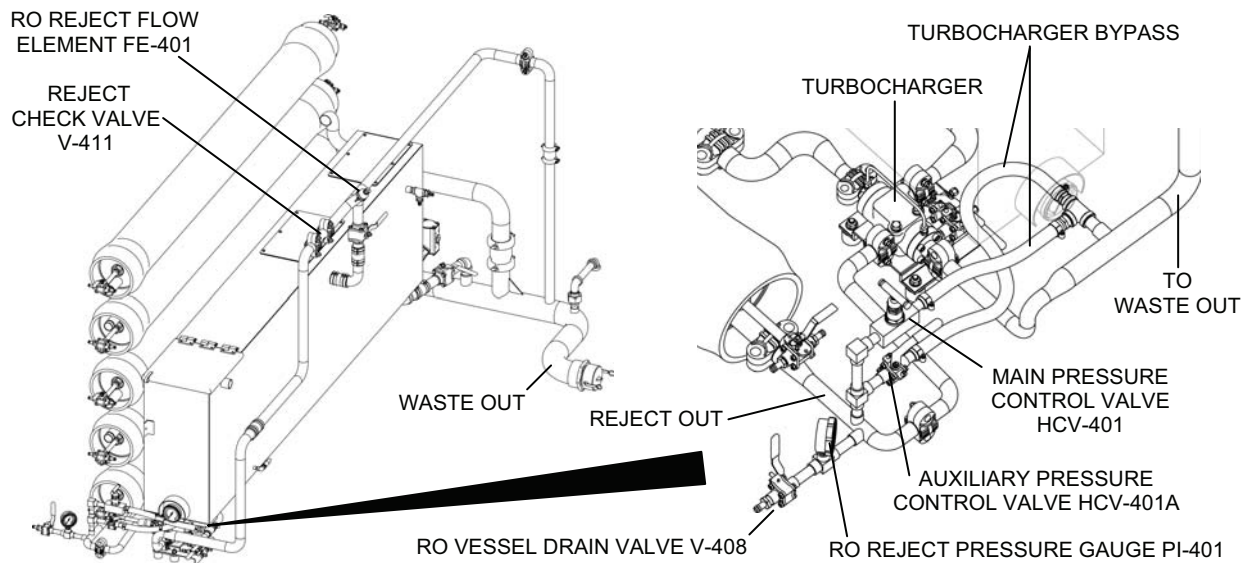
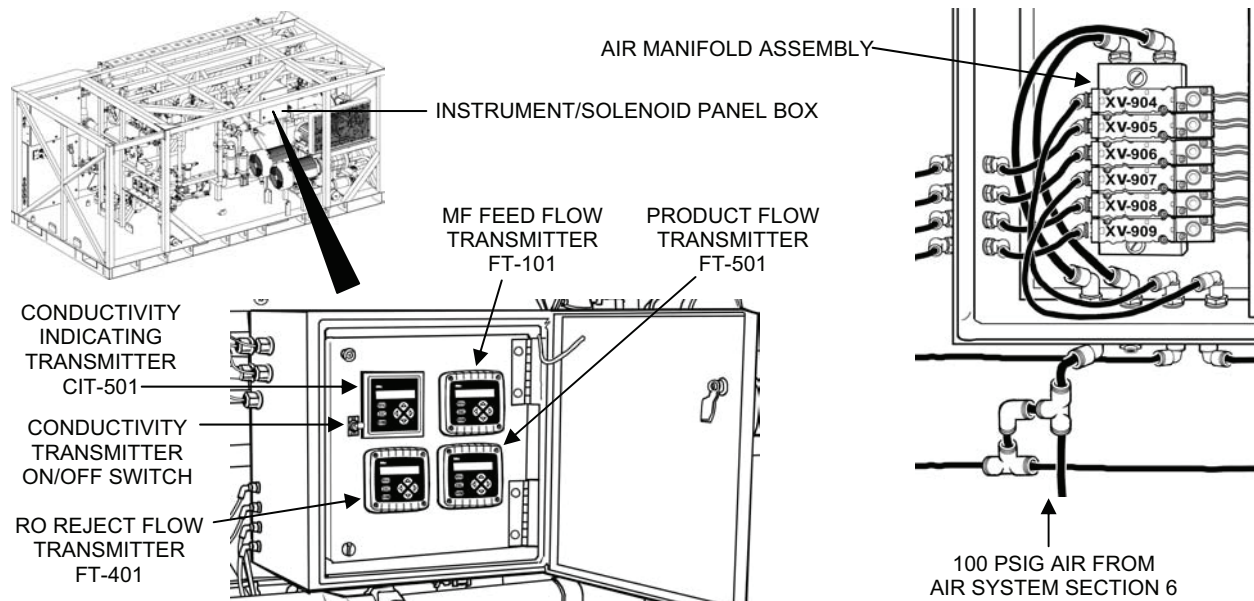

Figure 16. RO System: RO Vessels to Waste Out.
Figure 23. Air System: Instrument/Solenoid Panel Box.
RO System: RO Vessels to Waste Out (see Figure 16)
- **RO Reject Flow Element FE-401 and Flow Transmitter FT-401.** (FT-401 is not shown in Figure 16. It is located in the instrument/solenoid panel box shown in Figure 23). FE-401 and FT-401 measure the reject flow. Reject flow is displayed at the operator control panel (OCP).
- **Conductivity Indicating Transmitter (Analyzer) CIT-501.** (CIT-501 is not shown in Figure 16. It is located in the instrument/solenoid panel box shown in Figure 23). Using inputs from CE-501A and CE-501B, provides an output to the PLC, which displays the measurement on the OCP as mg/l total dissolve solids (TDS). TDS is an indication of how much salt is in the product water. A high alarm indicates when the TDS is greater than 1000 mg/L or when the PLC calculates that the RO membrane salt rejection has become too low.
- **Product Flow Element FE-501 and Product Flow Transmitter FT-501.** (FT-501 is not shown in Figure 16. It is located in the instrument/solenoid panel box shown in Figure 23). FE-501 and FT-501 measure product flow. The flow is displayed at the OCP.
Air System: Instrument/Solenoid Panel Box (see Figure 23)